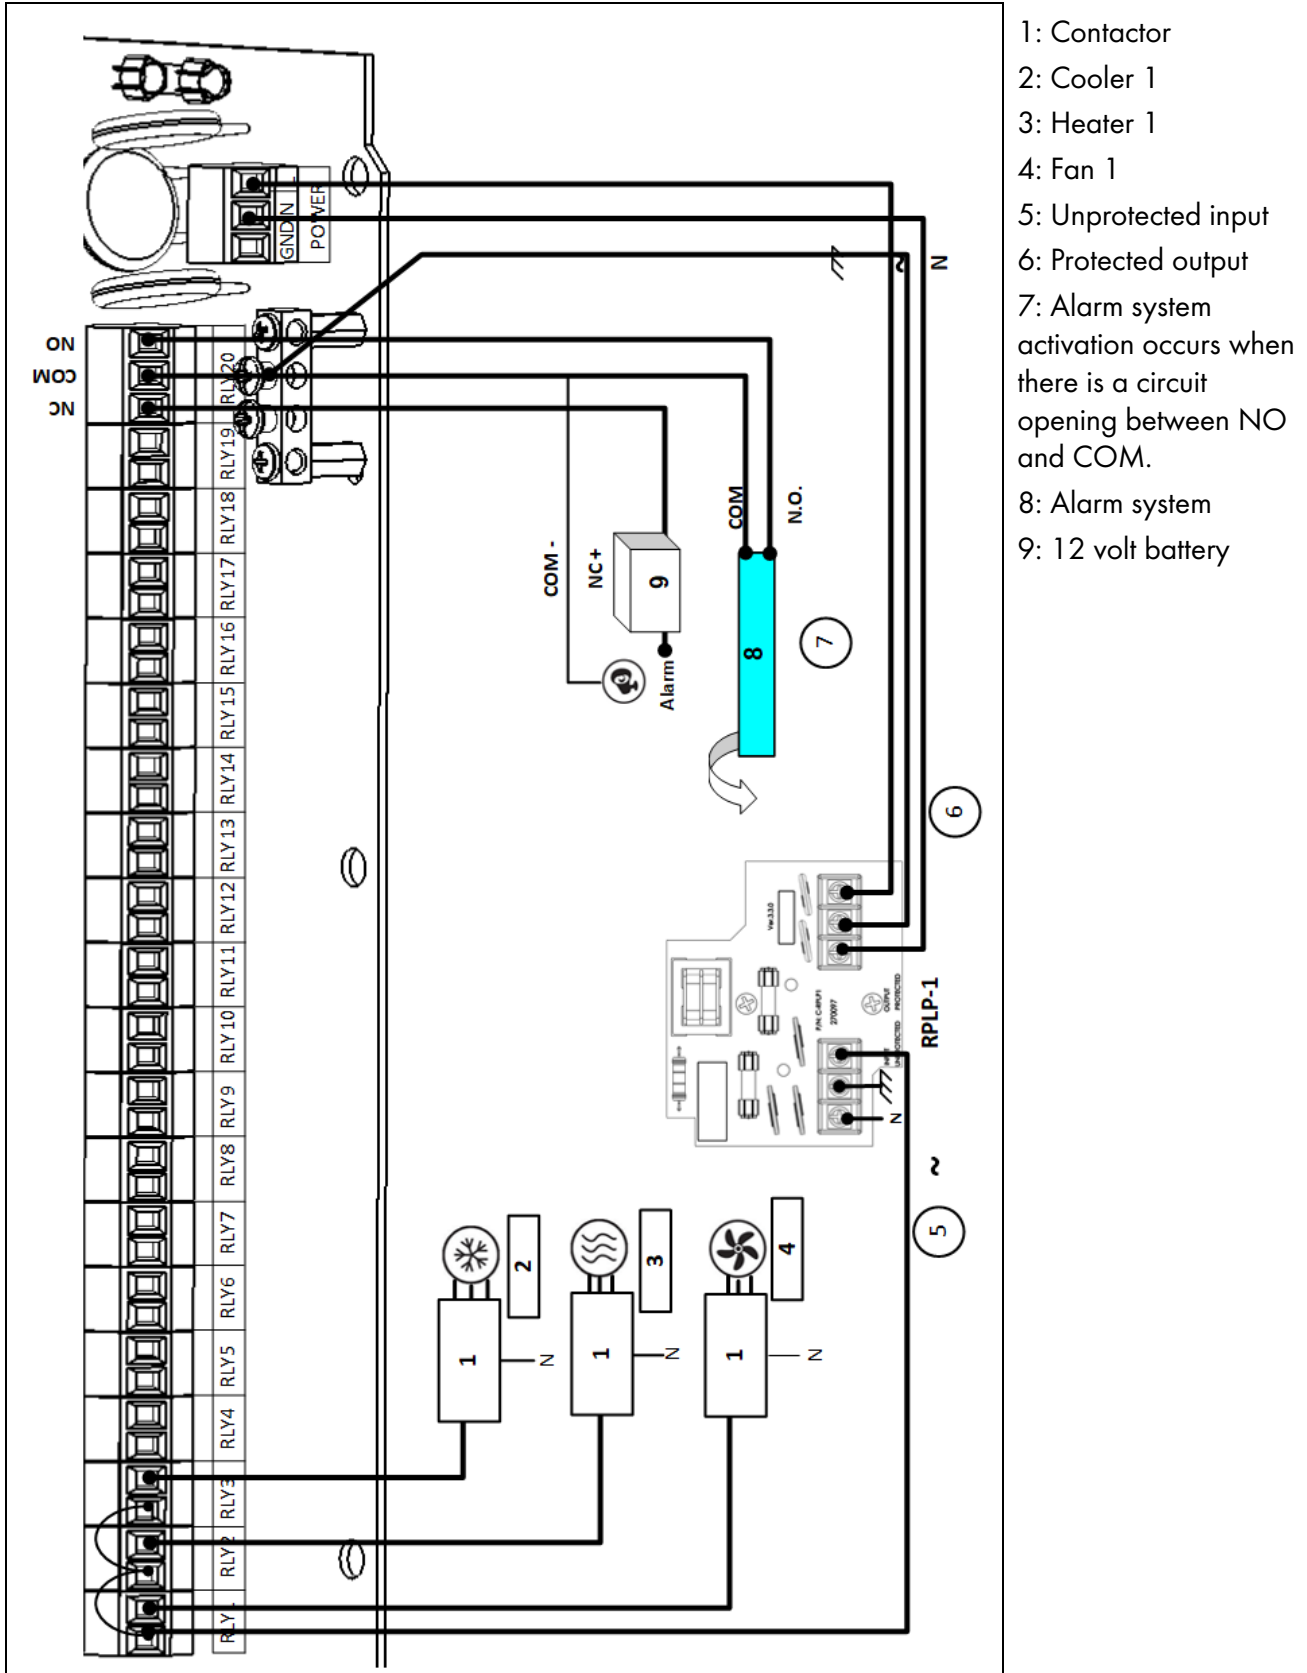

Figure 8: High Voltage Wiring Example
*NOTE* The device connections (fan, heat, cool, etc.) shown in Figure 8 are only examples!